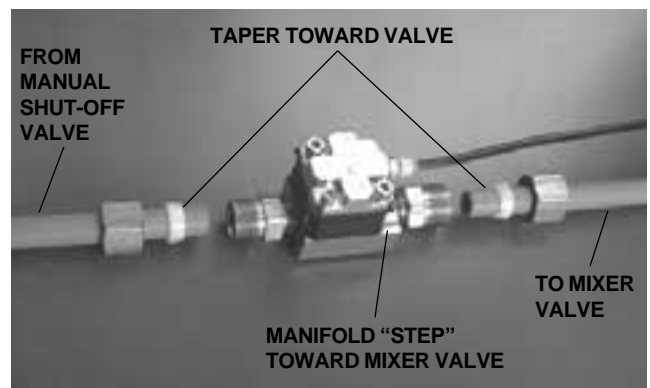

FIGURE 29
4. Remove the nuts from each of the air-actuated valves. Discard the brass compression sleeves if present, and install plastic compression sleeves. Slide the nuts and new plastic compression sleeves onto the newly cut gray tubing. Be sure the tapered end of the compression sleeve is pointed toward the valve. Install the two valves, with the flat manifold "step" **toward** the mixer valve, then tighten the nuts (see *Figure 29*).